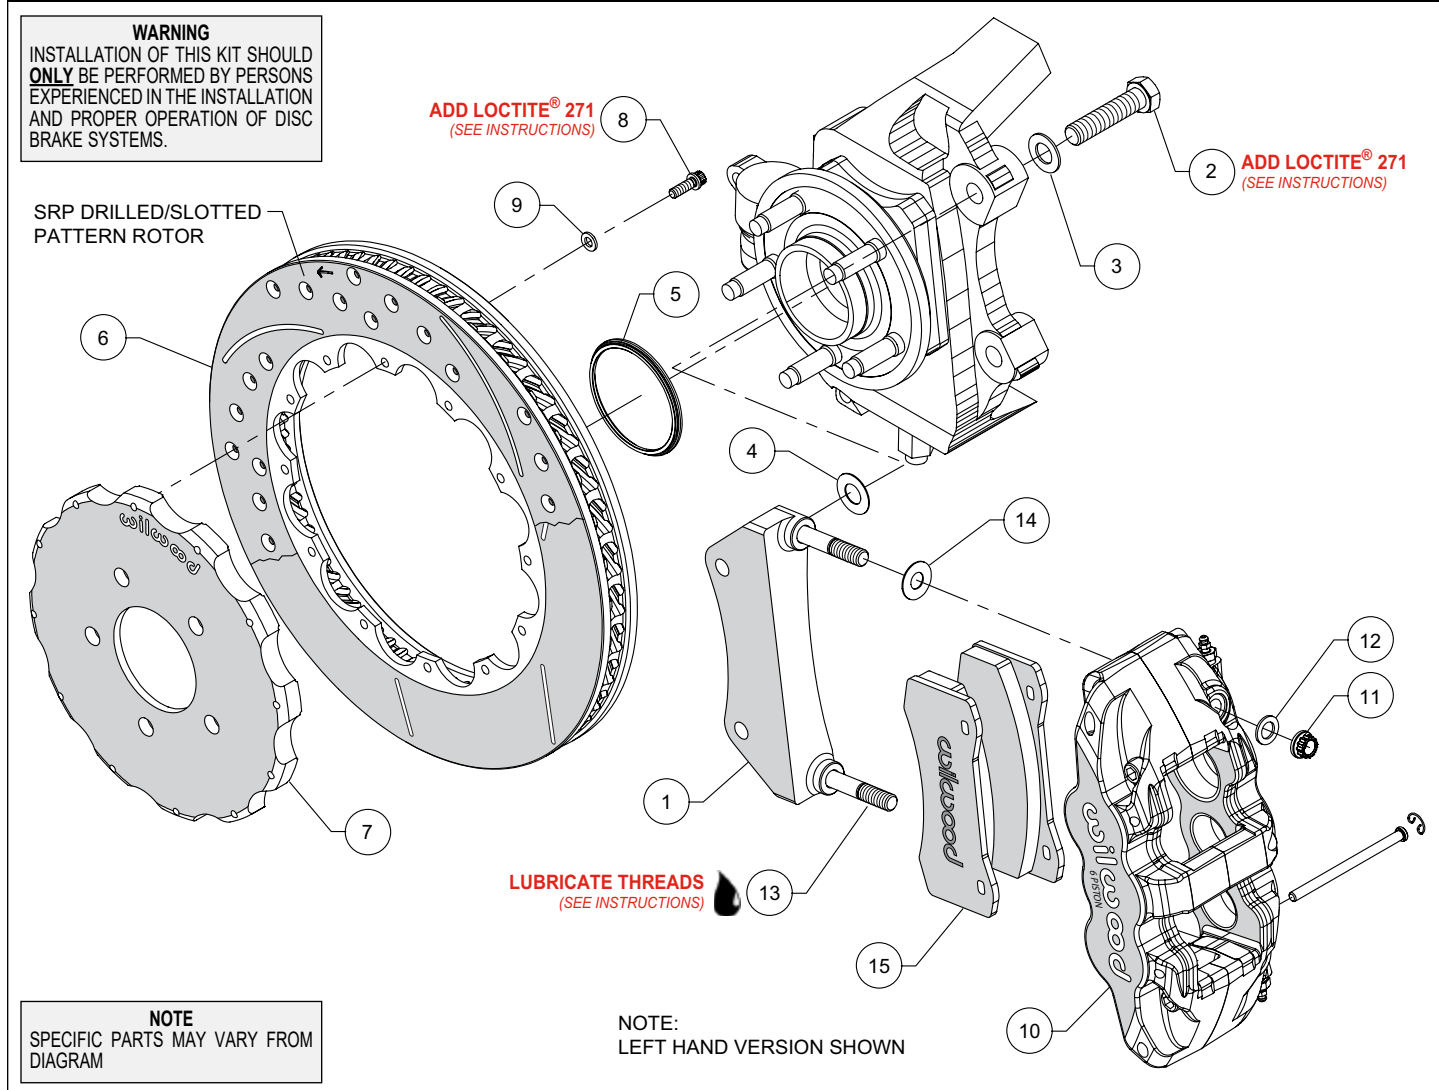
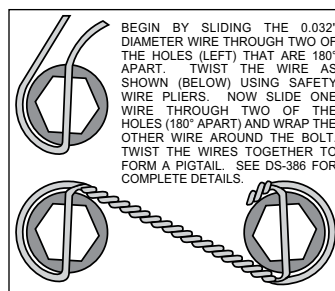

Figure 1. Typical Installation Configuration
Figure 3. Safety Wire Diagram
NOTE: Numbers in parenthesis refer to the parts list and Figure 1 on the preceding pages.
- The caliper mount bracket (1) should initially be installed with clean, dry threads on the mounting bolts. Orient the bracket as shown in Figure 1 and Photo 1, and install using bolts (2) and washers (3). Initially place one .029 thick shim (4) on each bolt between the bracket and upright, Figure 1. Temporarily tighten the mounting bolts. **NOTE:** *The bracket must fit squarely against the mounting points on the upright.* Inspect for interference from casting irregularities, machining ridges, burrs, etc. Later, after the caliper alignment has been checked, the mount bolts will be secured using red *Loctite*® 271.
- Orient the rotor (6) and the hat (7) as shown in Figure 1 and Photo 2. Attach rotor to hat using bolts (8) and washers (9). Apply red *Loctite*® 271 to the bolt threads and torque to 155 in-lb using a criss-cross pattern. For an added measure of security, the bolts may be safety wired using standard 0.032 inch diameter stainless steel safety wire as shown in Figure 3. Please refer to Wilwood's data sheet DS-386 (available at www.wilwood.com/Pdf/DataSheets/ds386.pdf) for complete safety wire installation instructions.
- NOTE:** *This kit contains distinct right and left hand calipers that must be mounted in a specific direction, as described below.* Lubricate the caliper mounting studs (13) with lightweight oil. Initially place one .030" thick shim (14) on each stud between the caliper and the bracket, as shown in Figure 1 and Photo 5. Mount the caliper (10) onto the bracket (1) using lock nuts (11) and washers (12), Figure 1. Ensure that the caliper is mounted so the largest pistons are at the rotor exit end of the caliper, in relation to the direction of rotor rotation. Temporarily tighten the lock nuts and view the rotor through the top opening of the caliper. The rotor should be centered in the caliper, Photo 6. If not, adjust by adding or subtracting shims (4) between the bracket and the upright. Always use the same amount of shims on each of the two mounting bolts. Once the caliper alignment is correct, remove the bracket mounting bolts (2) one at a time, apply red *Loctite*® 271 to the threads, and torque to 105 ft-lbs.
- Remove the two pad retaining pins from the caliper (10) by carefully popping out the pin retaining clips and sliding out the pins. Insert the brake pads (15) into the caliper from the bottom, Figure 1 and Photo 7. With the friction material facing the rotor, secure the brake pads in place with the pad retaining pins and clips, Photo 8. Reinstall the caliper onto the caliper mounting bracket and temporarily tighten the lock nuts (11). Check that the top of the brake pad is flush with the outside diameter of the rotor, Photo 9. If not, adjust by adding or subtracting shims (14) between the caliper and the bracket. After the caliper pad height is set, torque the caliper lock nuts (11) to 47 ft-lb.